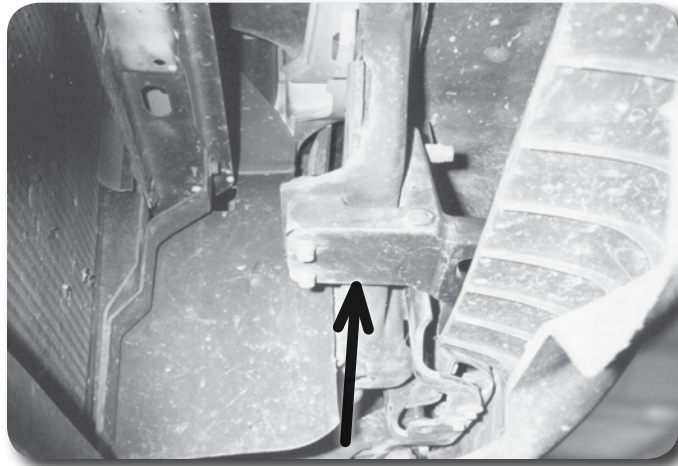

Figure 8
18. If equipped, remove the three bolts mounting each tow hook **Figure 8** to the frame and remove the hooks from the vehicle. Save hooks and hardware.